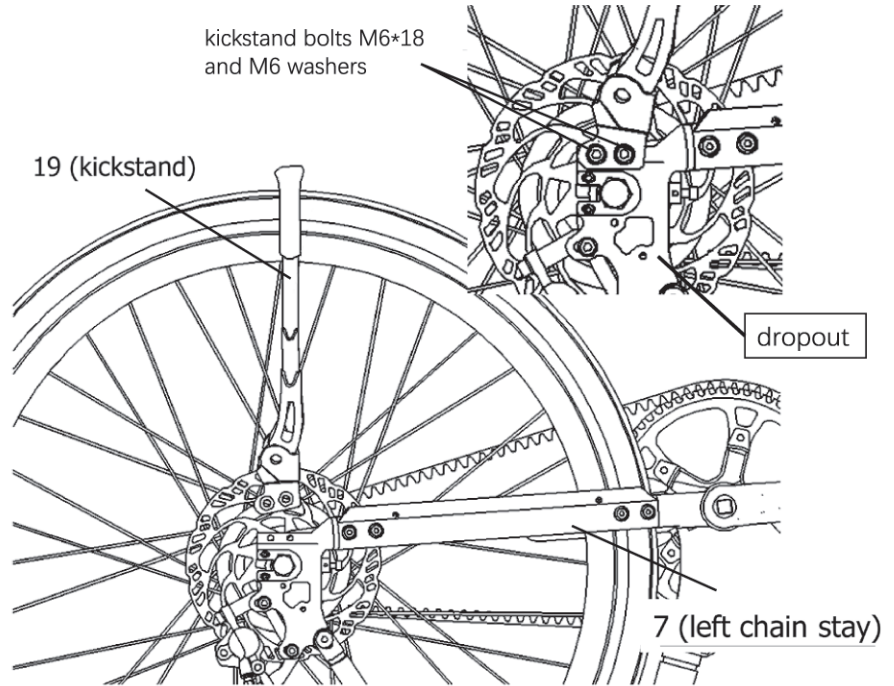

Figure 43: Affix the kickstand onto Part 7.
- Use a 5 mm Allen key to affix Part 19 onto the dropout of Part 7, as shown in Figure 43.